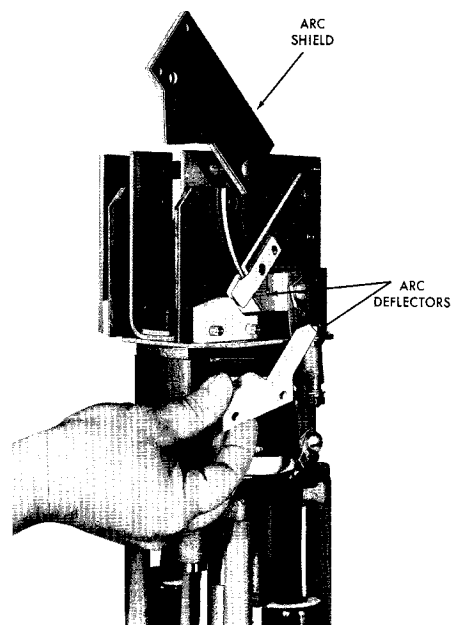

Figure 2. Removing arc deflectors
- C. Take off both arc deflectors as shown in Figure 2.